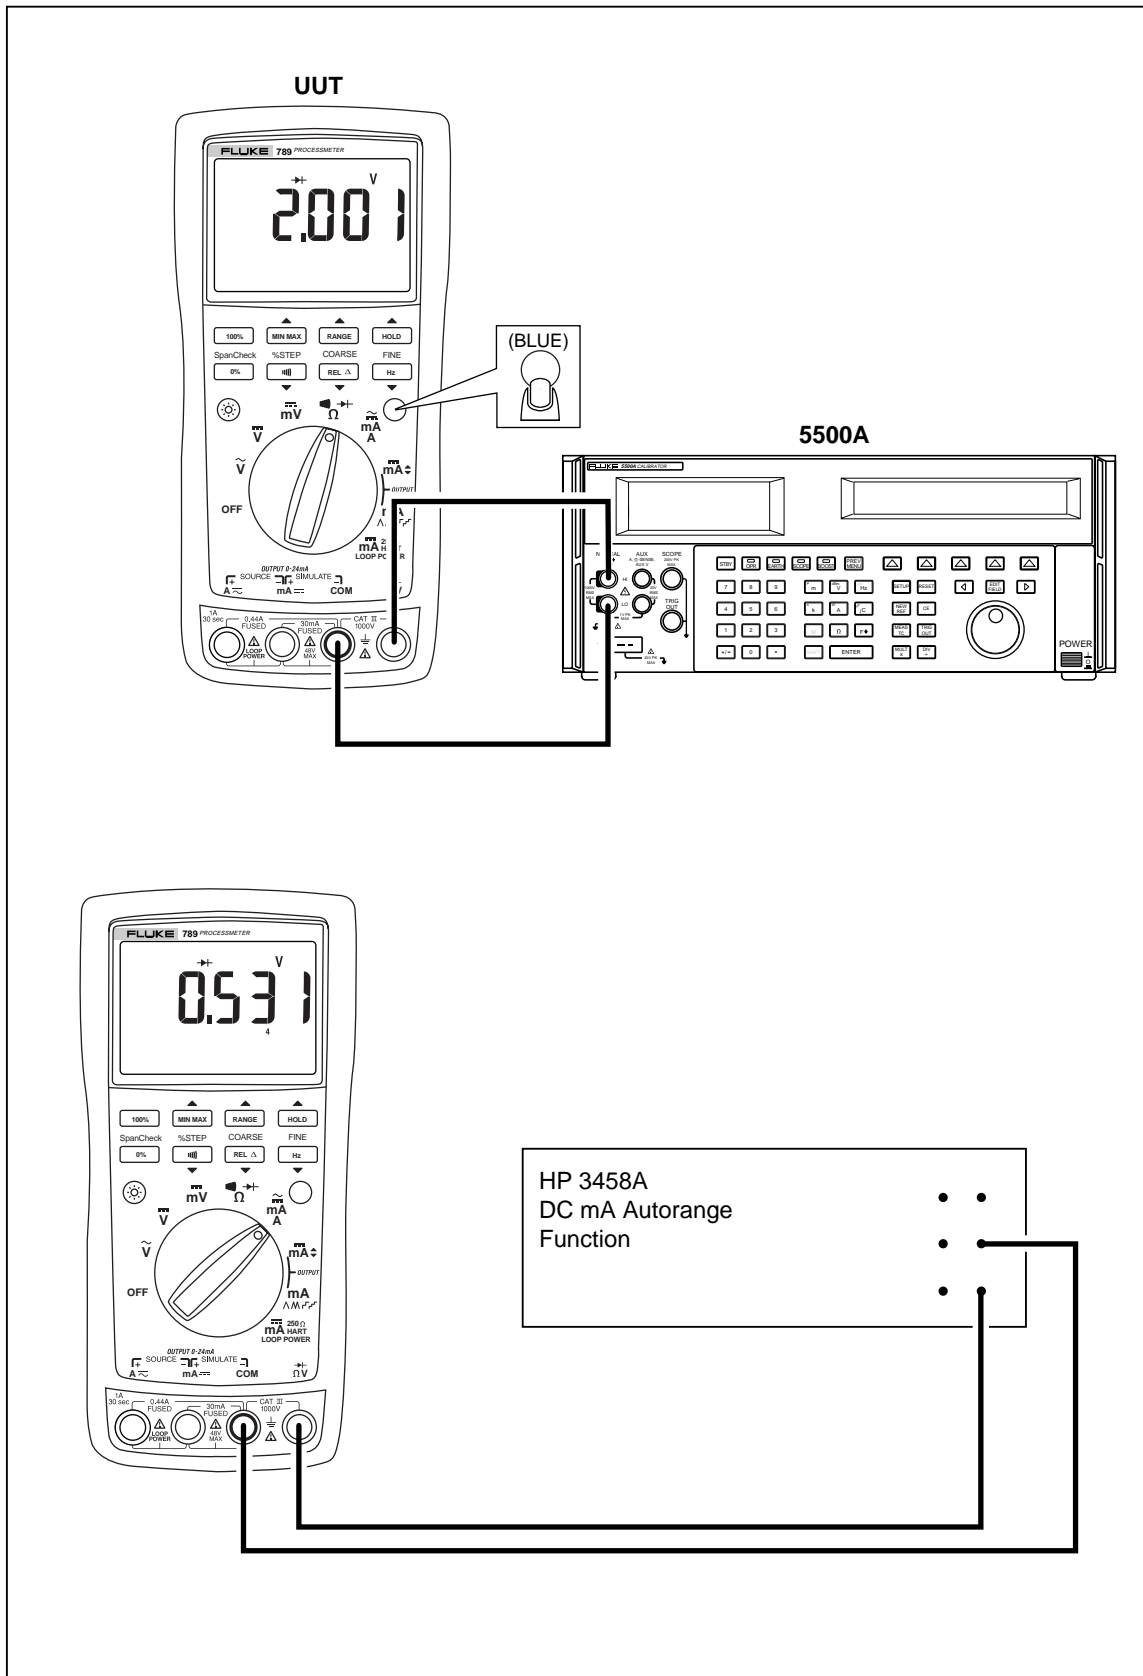

Figure 5. Diode Test Connections
4. Connect the calibrator to the **COM** and $\Omega \rightarrow +$ terminals on the UUT as shown in Figure 5.